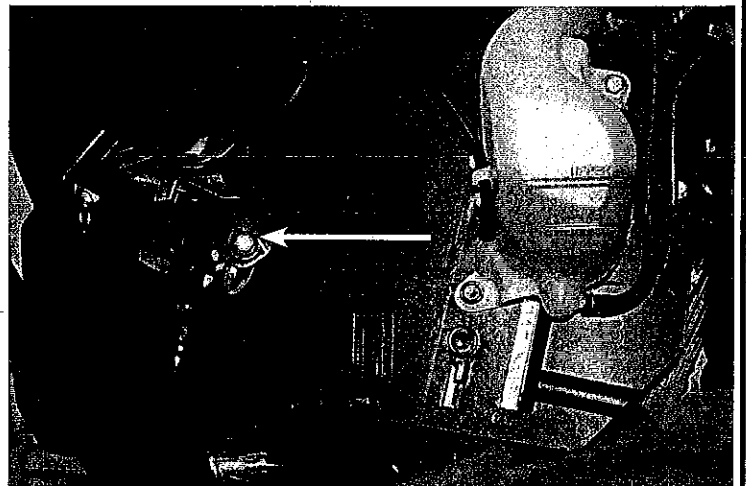

Figure 3
3. Remove the 6mm bolts from left and right side of brushguard. See Figure 3.